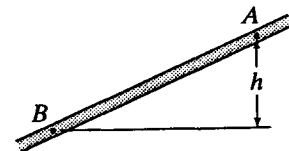

Figure X5.3.4
5.3.5 If  $h = 10.5$  m in Fig. X5.3.4 and the pressures at A and B are 170 and 275 kPa respectively, find the direction of flow and the pipe friction head loss in meters of liquid. Assume the liquid has a specific gravity of 0.85.